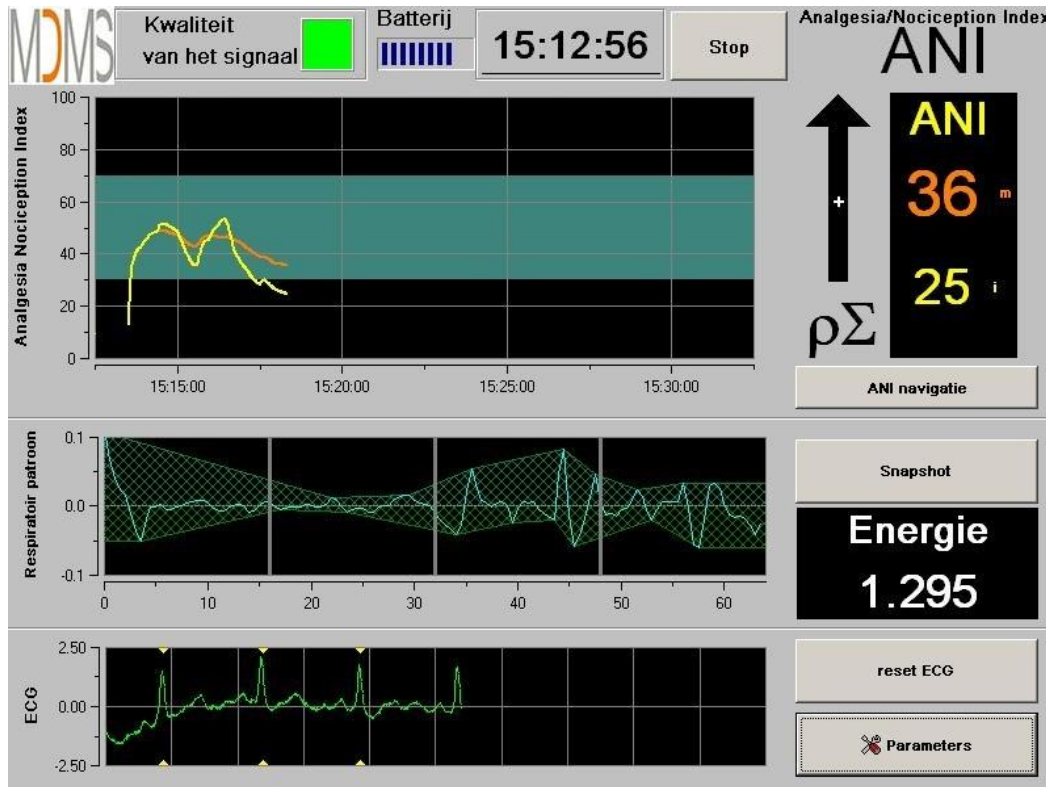

Figure 31
- “Expert” mode which displays respiratory pattern and one more function called “Energy” (figure 31)